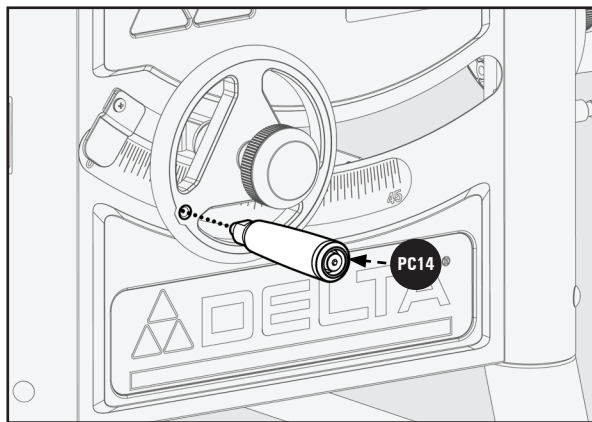

Figure 17
1. Insert one Handle (PC14) to the Elevation Hand Wheel located in the front of the Saw, as seen in Figure 17.